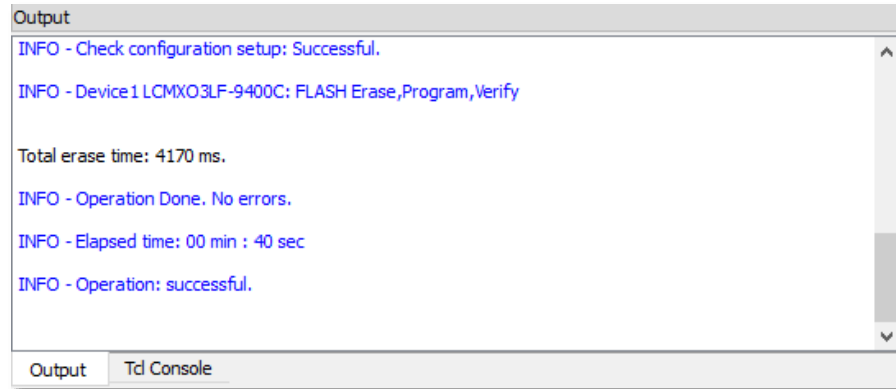
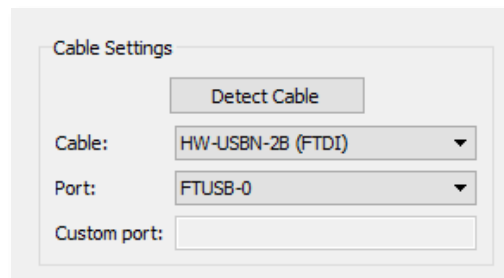

Figure 5.4. Output Console
Figure 5.5. Detect Cable Button
6. When programming is successful, the output console displays the message shown on Figure 5.4. If programming fails, press **Detect Cable** in the right pane of the programmer as shown in Figure 5.5.